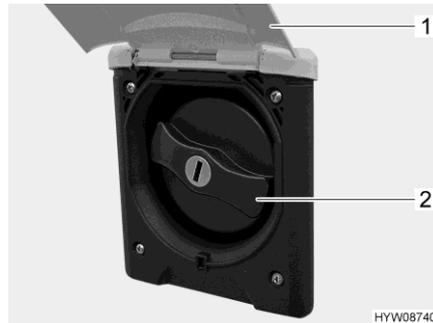

Fig. 202 Cap (drinking water filler neck)
- Swivel the external flap (Fig. 202,1) upwards.
- Turn the blue cap (Fig. 202,2) one quarter turn.